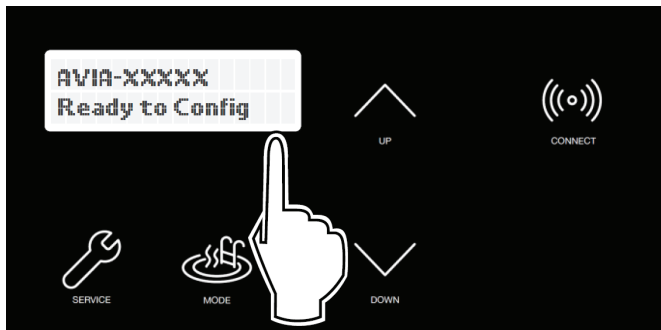

Figure 80. Wi-Fi Ready to Configure and HOTSPOT Identifier
- The **CONNECT** menu should display the Wi-Fi State, indicating "Ready to Config" wireless connection, and also the **HOTSPOT** identifier. See **Figure 80**.